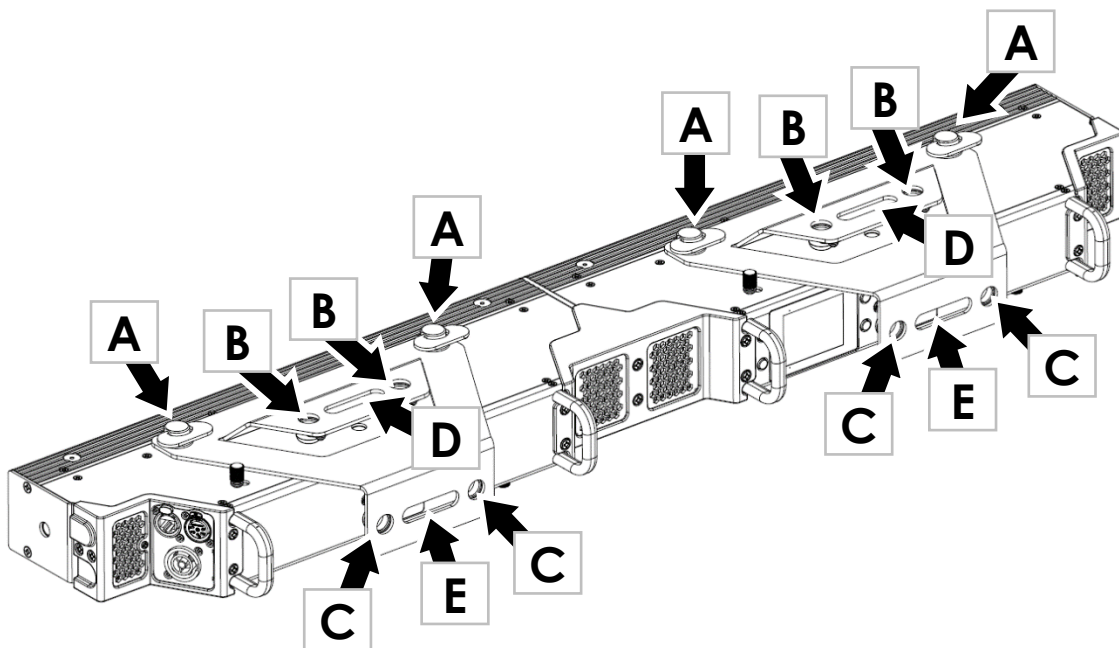

Figure 6. Installing JDC Line Rigging Brackets
2. See Figure 6. Fasten two JDC Line Rigging Brackets to the fixture using the brackets' quarter-turn fasteners **A**.